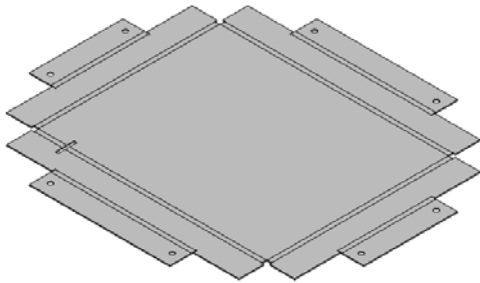

Figure 16-159 Model after adding the cut feature
4. Invoke the **Extruded Cut** tool and create the cut feature. The model after adding the cut feature is shown in Figure 16-159.